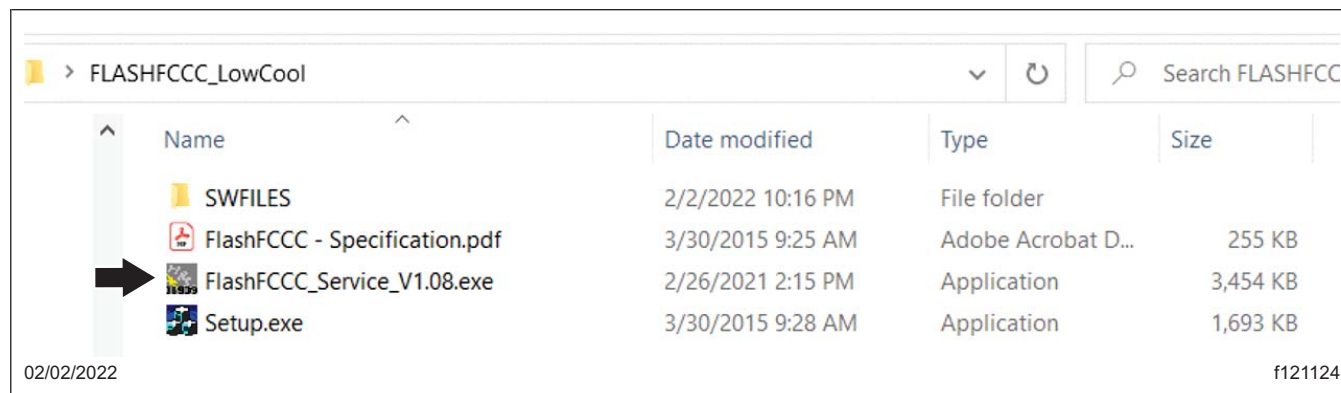

Fig. 8, FlashFCCC_Service_V1.08.exe Setup File Location
5. In the extracted folder **FLASHFCCC_LowCool**, run the file **FlashFCCC_Service_V1.08.exe**. See Fig. 8.